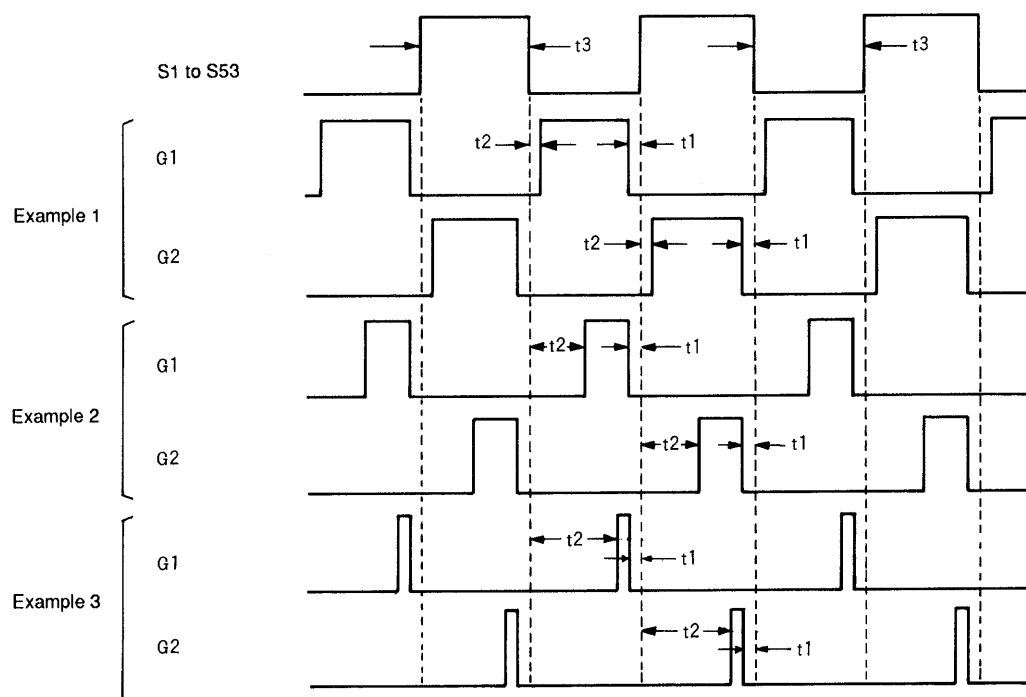

Figure 4
1. Consider the examples shown in Figure 4, where data is set up so that the segment outputs S1 to S53 output a low level on the G1 digit output timing and a high level on the G2 digit output timing. (Here, the G2 side being lighted)